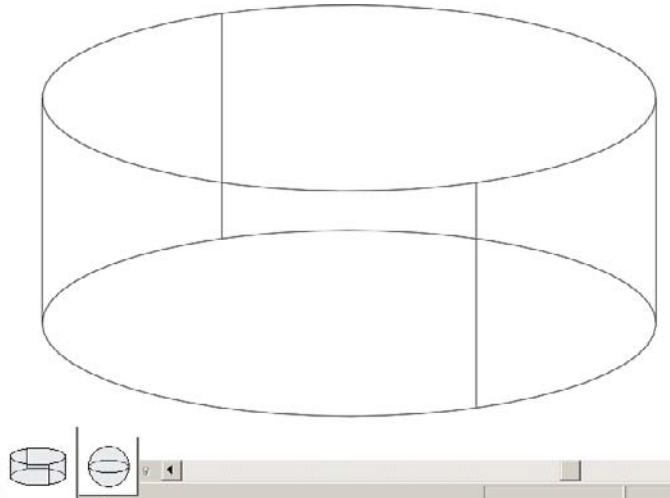

Figure 7.19
6. Double-click the South Elevation view to make that the active view. Use the Align tool from the Modify panel to align and lock the top of the extrusion form to Level 2 (Figure 7.19). By locking the top of the form to Level 2, the height of the form will